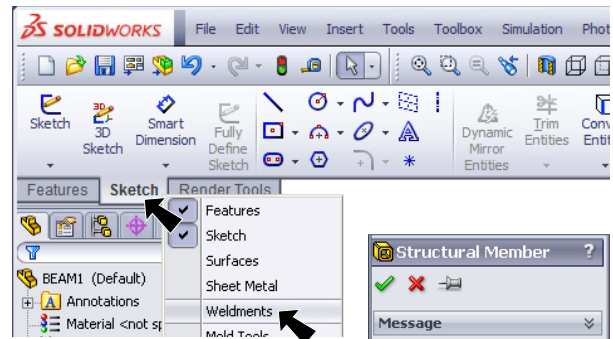

Fig. 11
Step 1. Right click Sketch  on the Command Manager toolbar and select **Weldments**, Fig. 11.